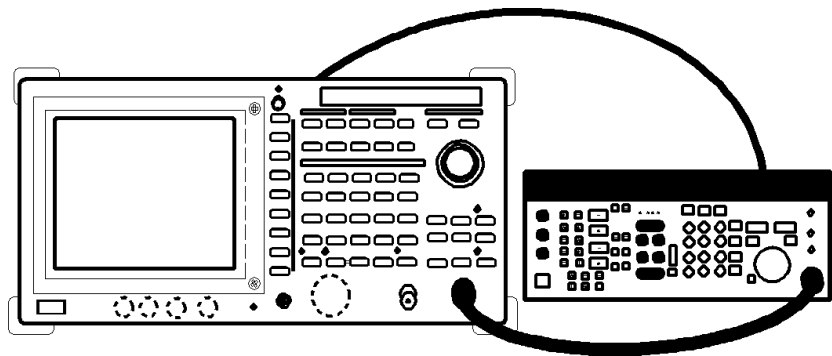

Figure 1-10 Setup for Measuring a Residual FM
1. Connect the signal generator as shown in Figure 1-10.